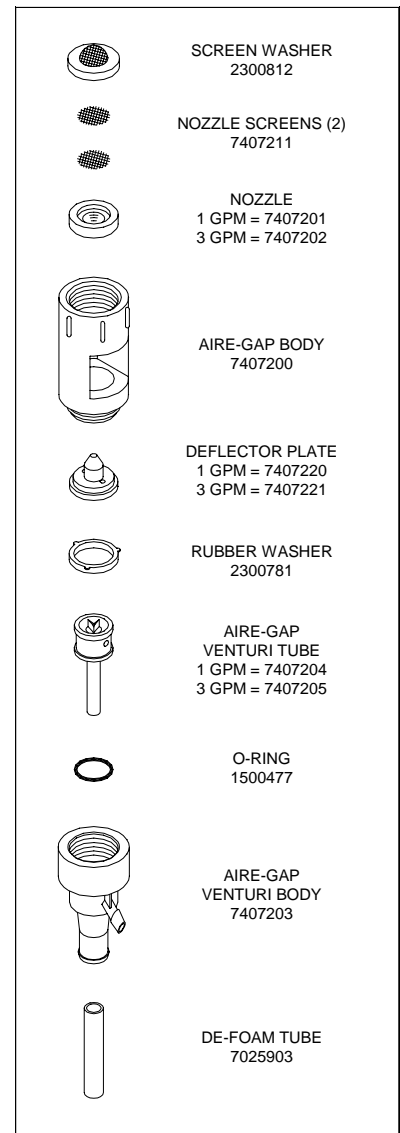

Figure 4
3. Remove existing nozzle, deflector plate, and venturi tube by disassembling the Aire-Gap — see Figure 4.